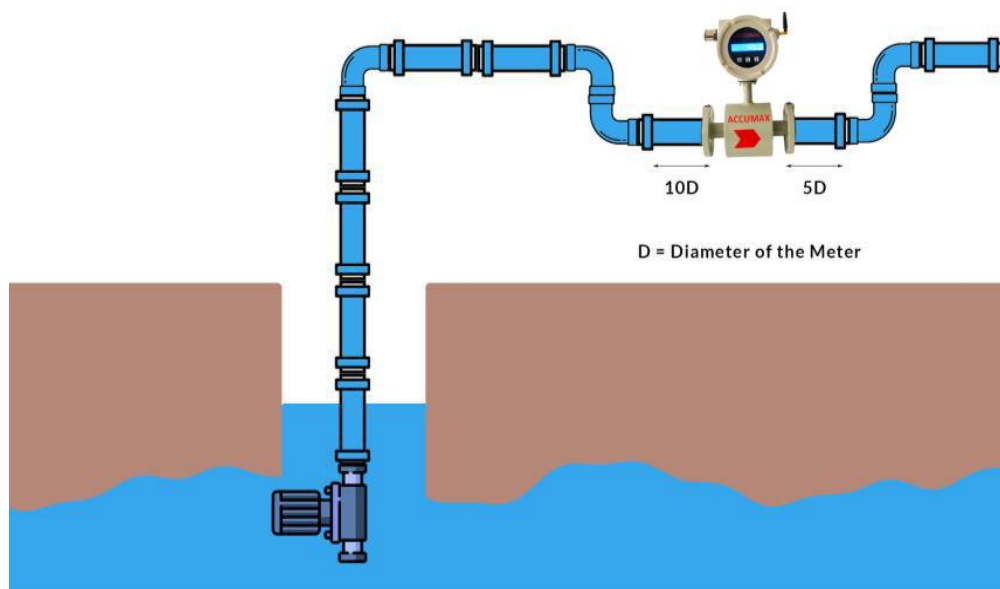

Figure. 1
- Location : The meter shall be installed at the bore well pump discharge line before any branching and preferably as shown in Figure. 1
- Full flow : The installation of the meter shall ensure the pipe shall have full of water at all times. Sufficient upstream and downstream straight length shall be provided for the meter (Refer to Figure 1.)